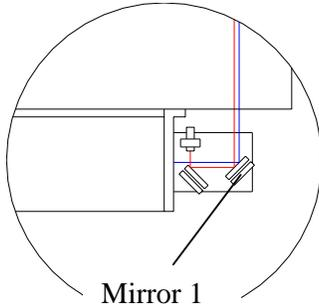
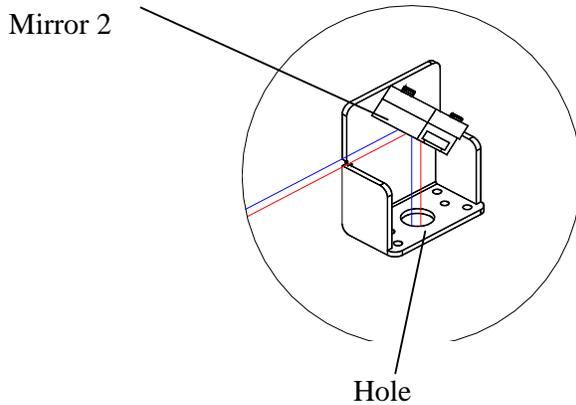

Fig 2-3
Fig 2-4
1. Stick a piece of masking tap on the backside of the Hole between mirror 1 and mirror 2. (Fig 2-4)
3. If the burn spot is not in the center of the Hole (Fig 2-4) please adjust Mirror 1 (Fig 2-3) until it is in the center.
4. Re-do the step1~3 until the laser beam will be shoot in the center of the paper (Fig 2-4).